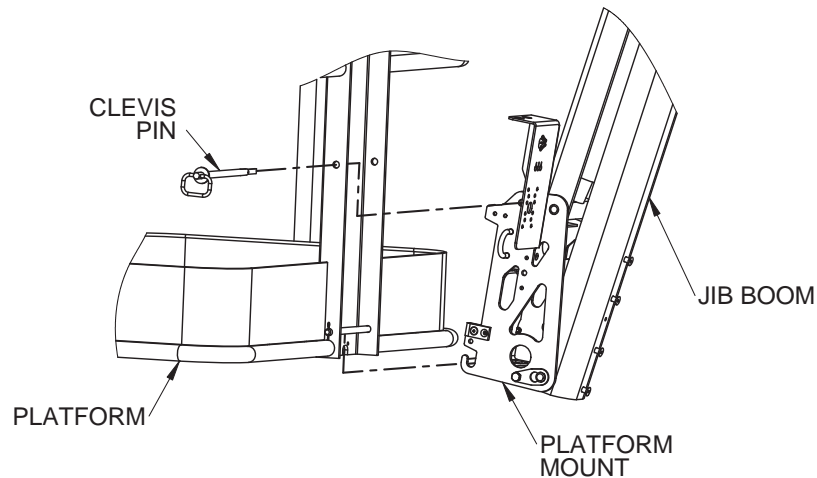

Figure 7-4. Platform Removal
- Remove the **CLEVIS PIN** holding the platform to the **PLATFORM MOUNT**. Refer to Figure 7-4.